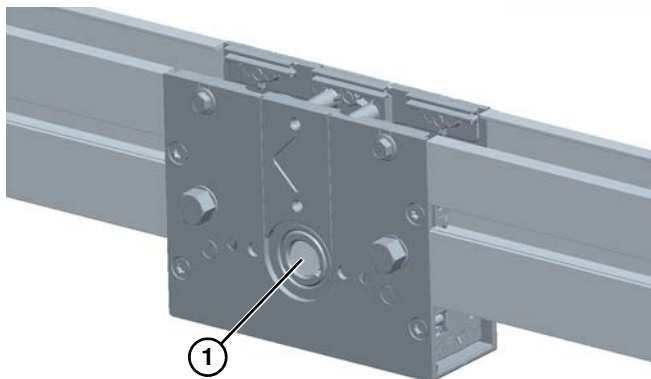

Figure 16
7. Using a punch and hammer, carefully tap the shaft (**Figure 16, item 1**) out of the mid drive assembly.